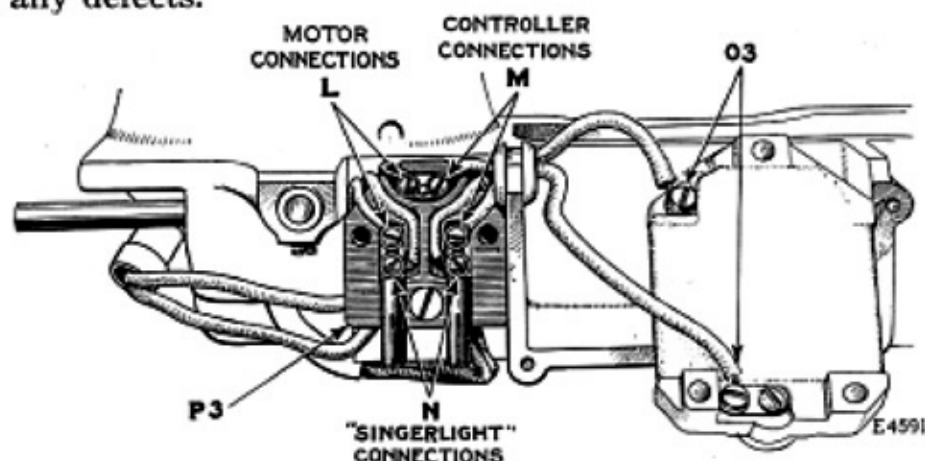

FIG. 9. SHOWING TERMINAL BLOCK AND CONTROLLER CONNECTIONS
This may be caused by a short circuit in the controller connections (M or O3, Fig. 9). Examine these connections carefully for any defects.
To reach the controller connections (M) take out the two screws which fasten the cover to the terminal block (P3, Fig. 9) and remove the cover.
on page 20. Take out the two screws which fasten the cover to the terminal block (P3, Fig. 9, page 11) at the back of the machine and remove the cover. Loosen the two screws (L, Fig. 9) and disconnect the motor wires from the terminal block.\* Then take out the large screw which fastens the terminal block (P3, Fig. 9)
To replace the motor, pass the two wires and insulating cable of the motor down inside of the arm and through the hole in the bed. (A piece of wire with a hook at one end may be inserted from below to draw the wires and cable down through the hole in the bed). While drawing the wires and cable through the hole in the bed, gently insert the motor into the machine, and turn it slightly from side to side until the spiral pinion meshes with the gear on the arm shaft and the motor will slip into position. Replace the screw (K3, Fig. 24, page 27) which fastens the motor frame in the machine, but do not tighten it. Place the two motor wires into the grooves at the back and front of the terminal block (P3, Fig. 9, page 11) and fasten the ends of the wires to the terminal block by means of the two screws (L, Fig. 9), then fasten the terminal block to the machine by means of the large screw,
3. Loose or broken connections. See that the two screws (N, Fig. 9, page 11) which fasten the Singerlight wires to the terminal block are firmly tightened.